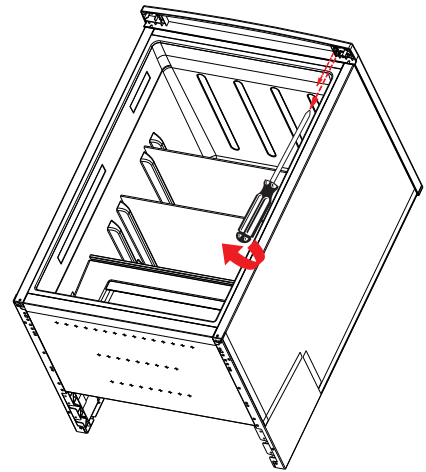

Fig. 11
- ▶ Use a Phillips screwdriver to unscrew the two retaining screws on the upper hinge of the refrigerator door and remove the hinge from the refrigerator housing (Fig. 11).